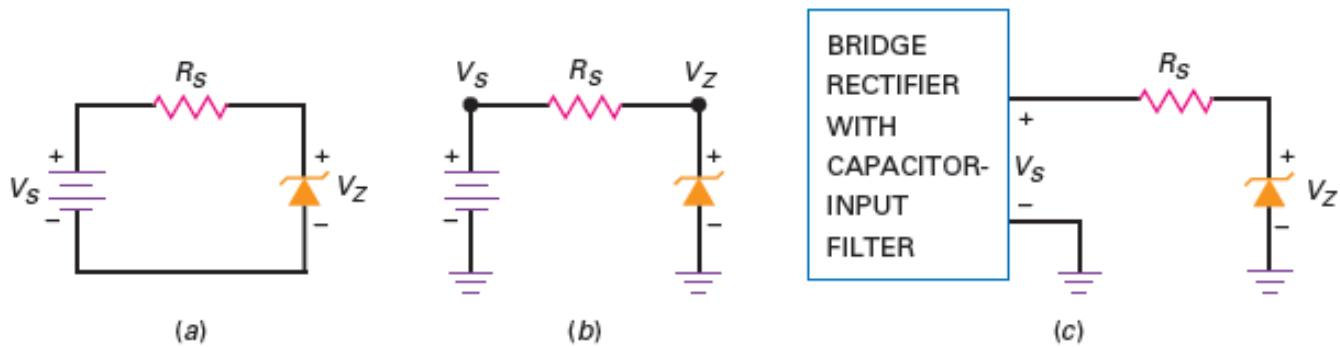

Figure-2 Zener regulator. (a) Basic circuit; (b) same circuit with grounds; (c) power supply drives regulator
- In Figure-2, the voltage across the series or current-limiting resistor equals the difference between the source voltage and the Zener voltage. Therefore, the current through the resistor is:
- Once you have the value of series current, you also have the value of Zener current. This is because Figure-2 is a series circuit. Note that I_s must be less than I_{zm} .